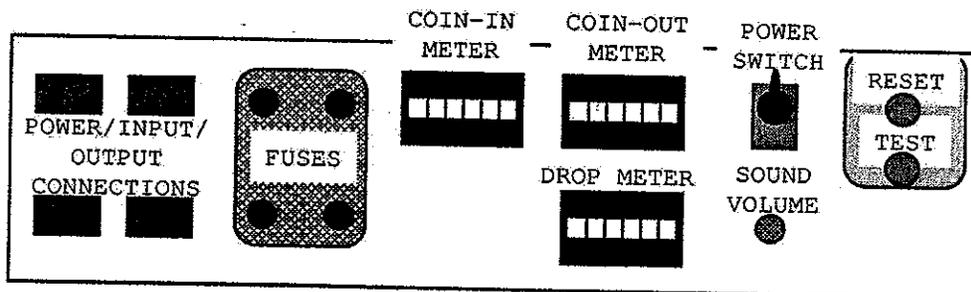

Figure 2-A
2. Open the game front door, exposing the interior. Midway between the hopper compartment and the reel mechanism compartment is the control panel. Refer to Figure 2-A for a graphic representation of the control panel.